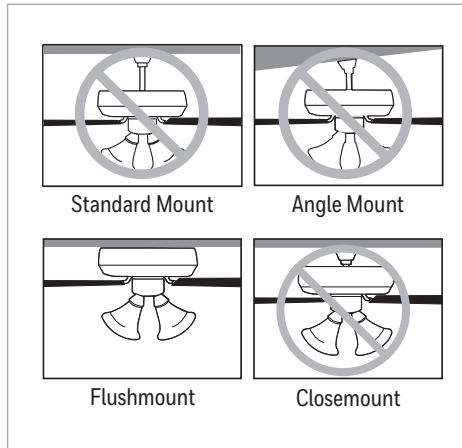

Figure 1.2
2. This fan is intended for flushmount installation only (Figure 1.2). Standard mount, angle mount, and closemount are not available for this fan.